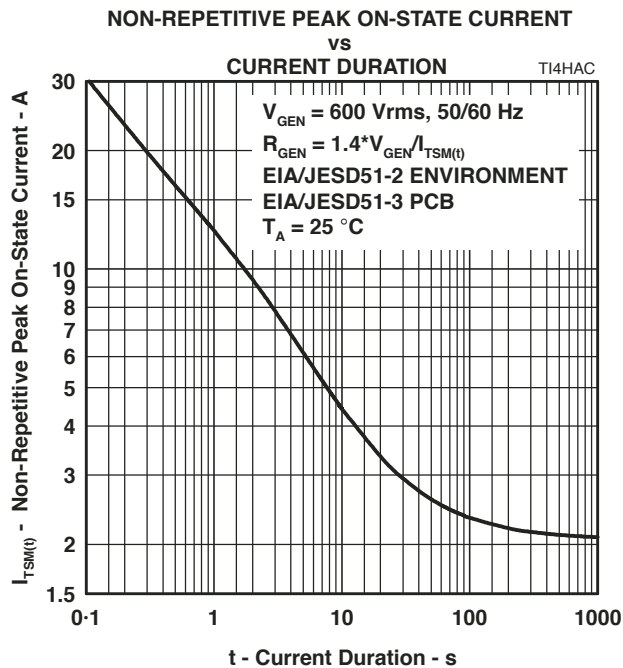

Figure 8.
5. EIA/JESD51-2 environment and EIA/JESD51-3 PCB with standard footprint dimensions connected with 5 A rated printed wiring track widths. See Figure 8 for the current ratings at other durations. Derate current values at $-0.61\text{ %/}^{\circ}\text{C}$ for ambient temperatures above 25 °C .
The protector can withstand currents applied for times not exceeding those shown in Figure 8. Currents that exceed these times must be terminated or reduced to avoid protector failure. Fuses, PTC (Positive Temperature Coefficient) resistors and fusible resistors are overcurrent protection devices which can be used to reduce the current flow. Protective fuses may range from a few hundred milliamperes to one ampere. In some cases, it may be necessary to add some extra series resistance to prevent the fuse opening during impulse testing. The current versus time characteristic of the overcurrent protector must be below the line shown in Figure 8. In some cases, there may be a further time limit imposed by the test standard (e.g. UL 1459 wiring simulator failure).